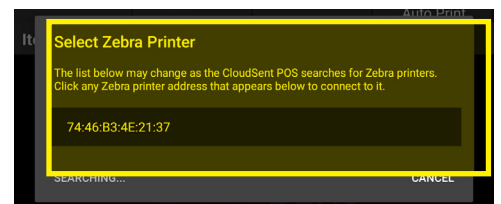

Figure 36
6. Select the correct Bluetooth address for your Zebra printer (Figure 36).